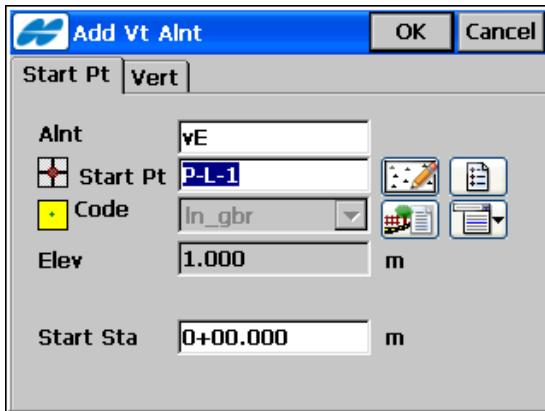

Figure 7-14. Edit Vertical Alignment
- **Edit** – opens the **Edit Vt Alnt** screen (Figure 7-14 on page 7-16), to edit a vertical alignment highlighted in the list.
For Element vertical alignment types, the *Start Pt* tab on the **Edit Vt Alnt** screen (Figure 7-14) sets the parameters of the point starting the vertical alignment.